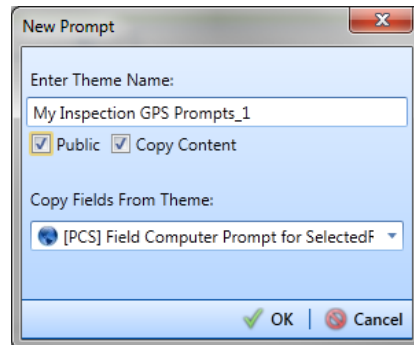

Figure 8-32. New Prompt
- 5 Click the **+** **Add** button to open the *New Prompt* dialog box (Figure 8-32).